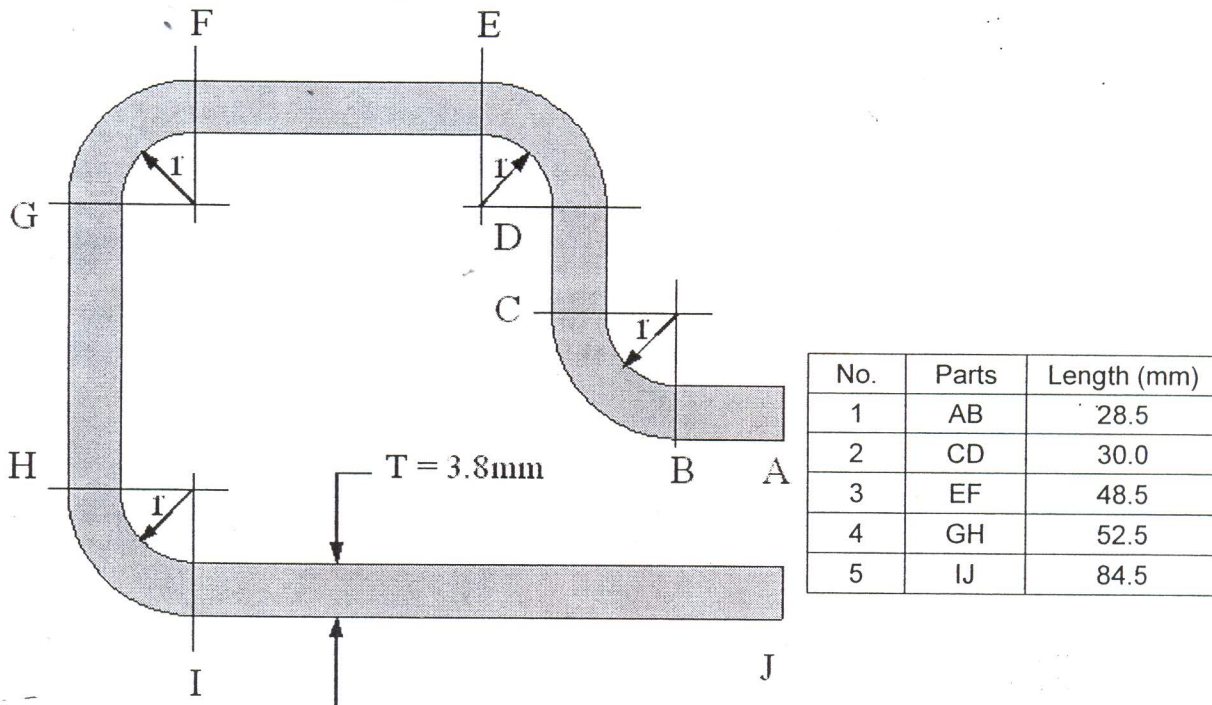

Figure 3 Four-bend Channel
a) Calculate the length of the blank required to form the four-bend channel section as shown in Figure 3. Approximate values for the neutral line are given in Table 1. The thickness of the metal, $T = 3.8\text{mm}$. Inside radius $r = 6.5\text{mm}$.